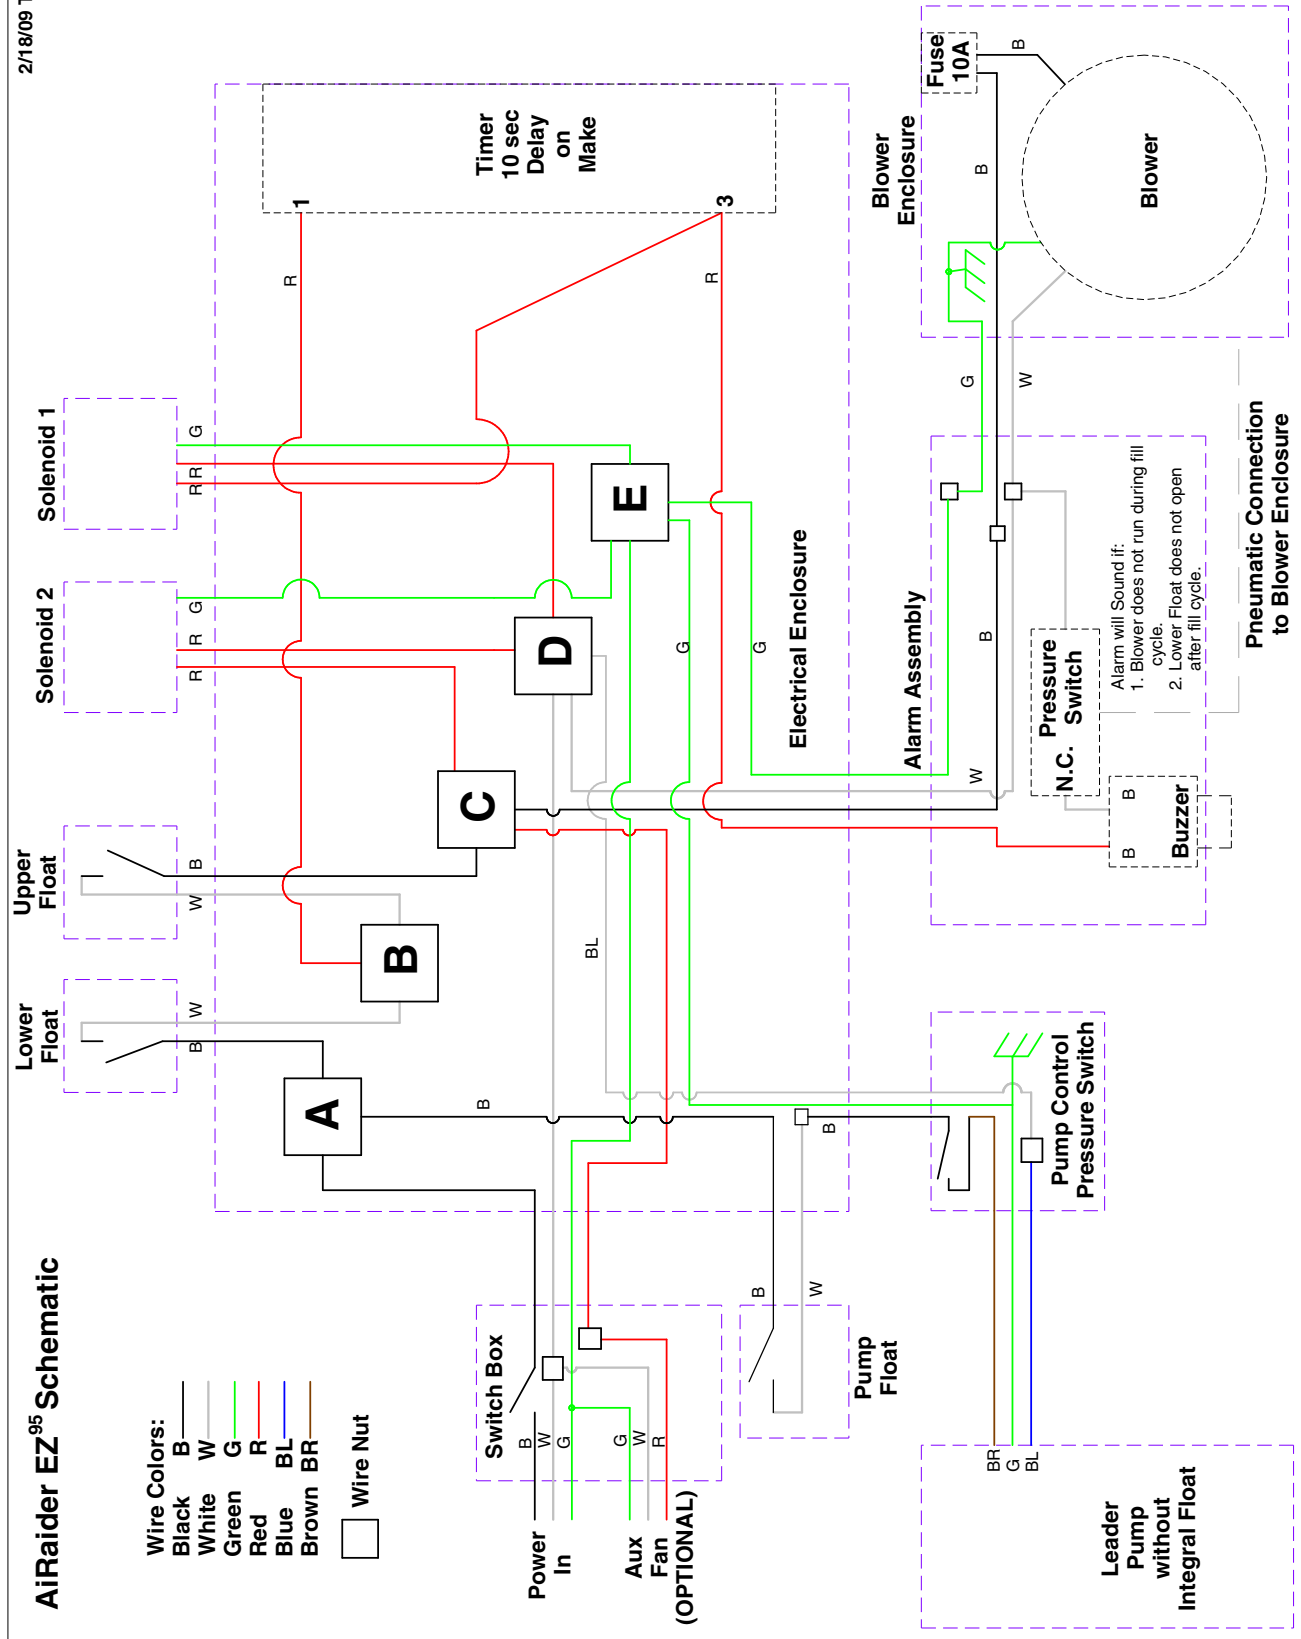

Figure 8 – Electrical Schematic
3. Connect power line to the connections provided within the electrical box per the Electrical Schematic (figure 8). Ensure that the "red" lead, provided for an optional auxiliary fan, remains insulated if not used.
4. If an optional auxiliary fan is used, the fan must be wired to the system electrical box, connecting as shown in the Electrical Schematic (figure 8). This will ensure that the fan operates only when required by the system.